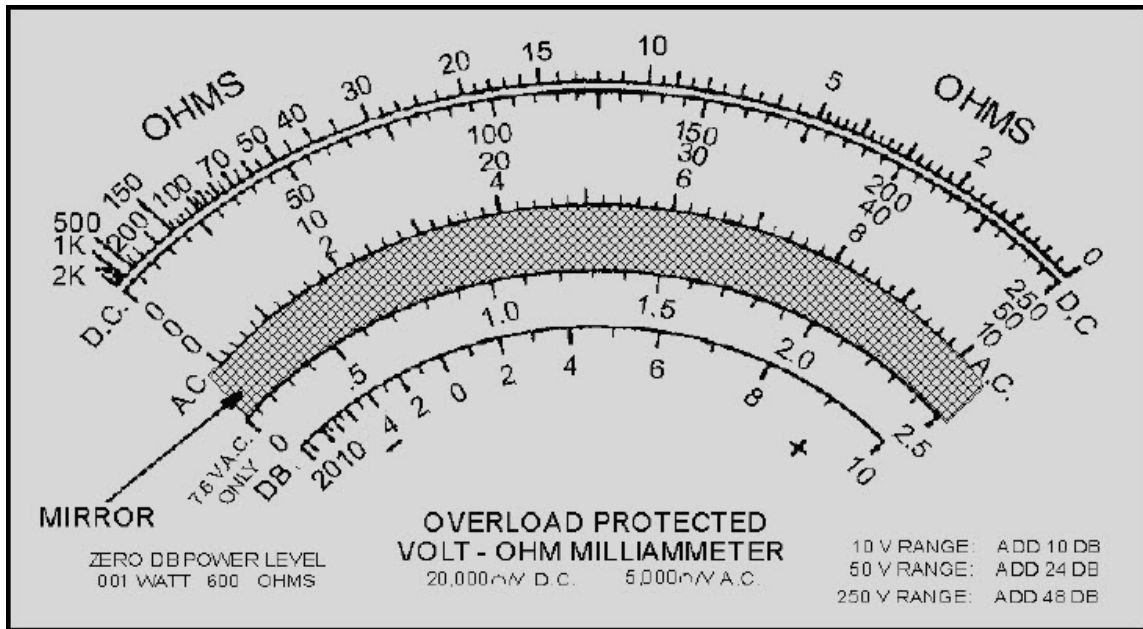
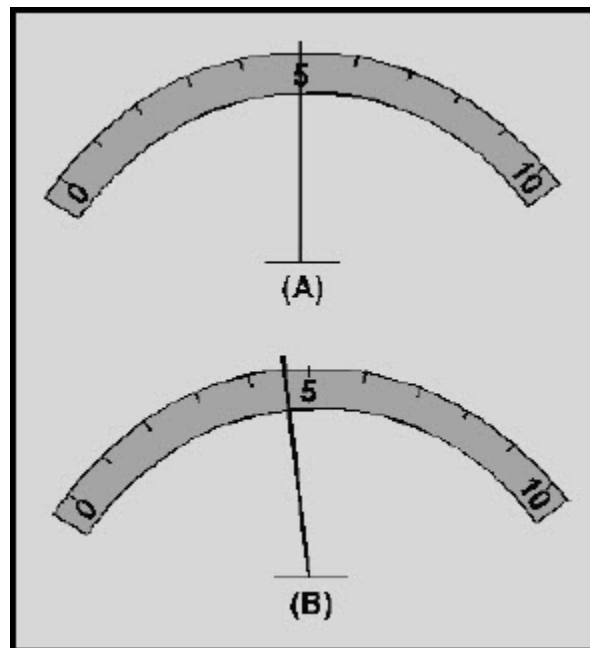
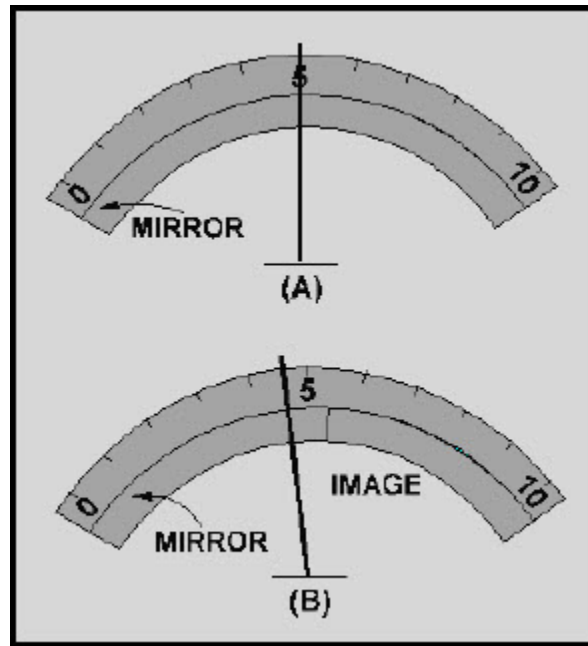

Figure 1-39 A multimeter scale with mirror
Figure 1-41 A parallax error in a meter reading
Figure 1-42 A parallax error on a meter with a mirrored scale
Most multimeters (and some other meters) have a mirror built into the scale. Figure 1-39 shows the arrangement of the scale and mirror.
Parallax can be a problem when you are reading a meter. Since the pointer is slightly above the scale (to allow the pointer to move freely), you must look straight at the pointer to have a correct meter reading. In other words, you must be in line with the pointer and the scale. Figure 1-41 shows the effect of parallax error.
Figure 1-41 (A) shows a meter viewed correctly. The meter reading is 5 units. Figure 1-41(B) shows the same meter as it would appear if you were to look at it from the right. The correct reading (5) appears to the right of the pointer because of parallax.
The mirror on the scale of a meter, shown in figure 1-39, helps get rid of parallax error. If there is any parallax, you will be able to see the image of the pointer in the mirror. If you are looking at the meter correctly (no parallax error) you will not be able to see the image of the pointer in the mirror because the image will be directly behind the pointer. Figure 1-42 shows how a mirror added to the meter in figure 1-41 shows parallax error. Figure 1-42(A) is a meter with an indication of 5 units. There is no parallax error in this reading and no image of the pointer is seen in the mirror. Figure 1-42(B) shows the same meter as viewed from the right. The parallax error is shown and the image of the pointer is shown in the mirror.